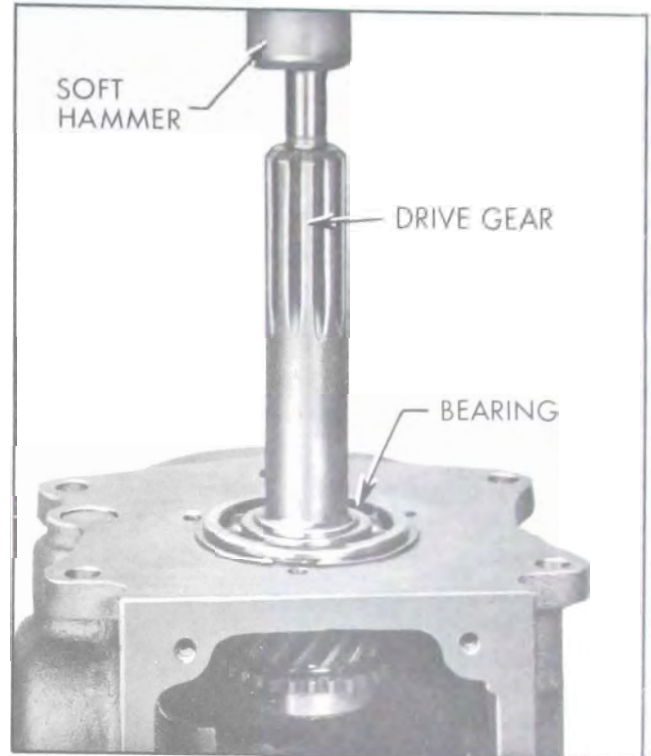

Figure 4-21—Removing Main Shaft or Drive Gear Bearing
13. If bearings on main shaft and/or drive gear are to be replaced, remove shaft snap ring and drive bearing off shaft. See Figure 4-21. Remove slinger washer from drive gear shaft and remove outer snap rings from bearings.